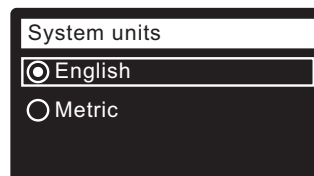

FIG. 21
17. **SYSTEM UNITS** If the desired system already has a dot next to it (See Figure 21), go to Step 18. Otherwise, press the DOWN (▼) or UP (▲) buttons to scroll to the desired system, then press the SELECT (O) button to choose it.
18. Press the SELECT (O) button.